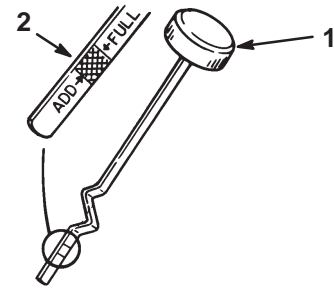

Figure 14
7. Clean around the oil dipstick (Fig. 14) so that dirt cannot fall into the fill hole and damage the engine.
8. Unscrew the oil dipstick and wipe the metal end clean (Fig. 14).
- Slowly pour approximately 80% of the specified amount of oil into the fill hole (Fig. 14). Check the oil level; refer to steps 4 and 5 of Checking the Oil Level on page 19.